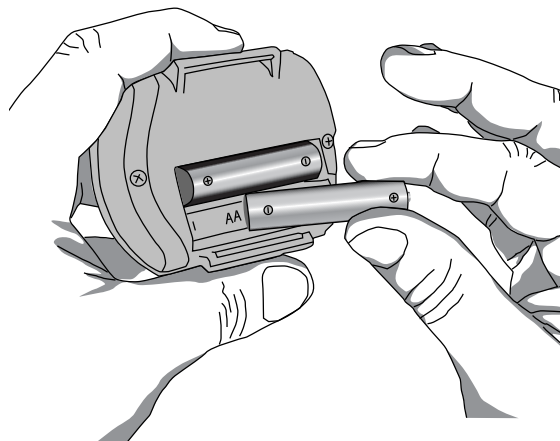

Figure 5: Insert Batteries
2. Insert 2 new AAA batteries (figure 5). Battery orientation is shown inside the battery compartment.